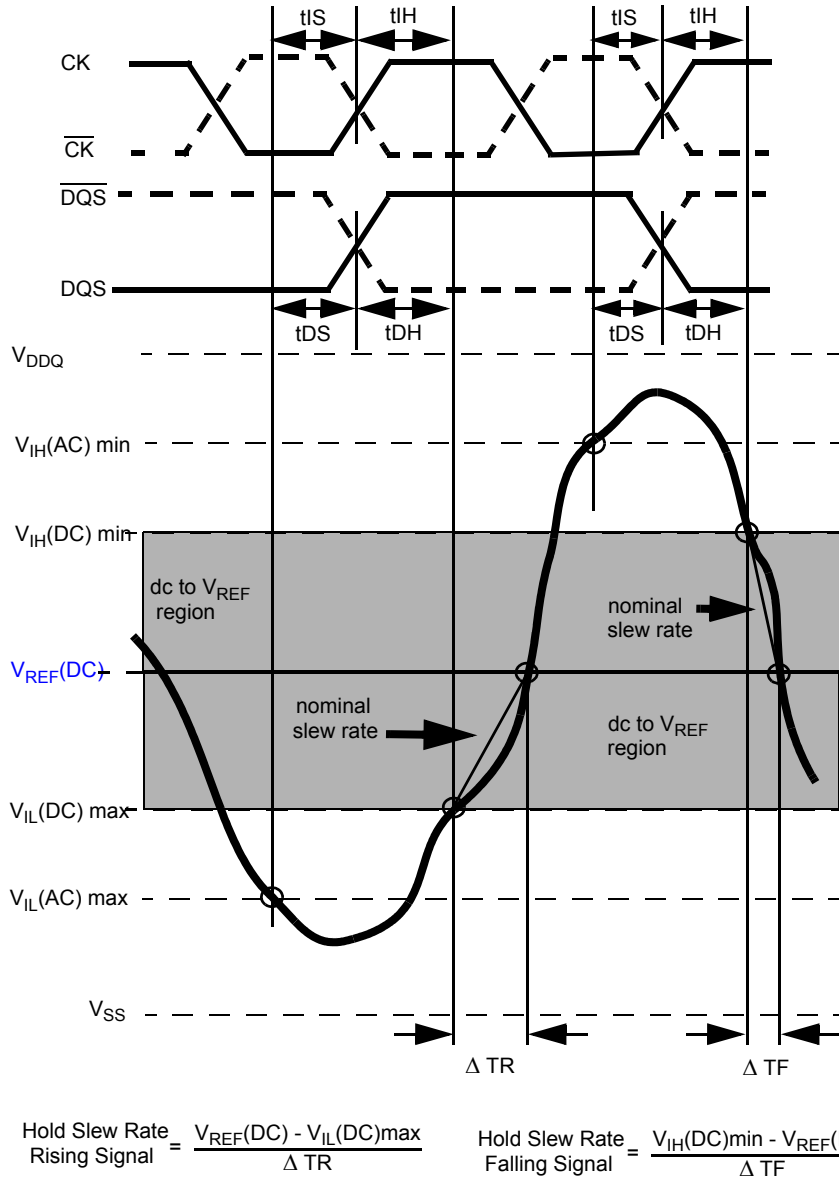

Figure 22. Illustration of nominal slew rate for hold time t_{DH} (for DQ with respect to strobe) and t_{IH} (for ADD/CMD with respect to clock).
Hold (tIH) nominal slew rate for a rising signal is defined as the slew rate between the last crossing of V_{IL}(DC)min and the first crossing of V_{REF}(DC). Hold (tIH) nominal slew rate for a falling signal is defined as the slew rate between the last crossing of V_{IH}(DC)min and the first crossing of V_{REF}(DC). If the actual signal is always later than the nominal slew rate line between shaded 'dc to V_{REF}(DC) region', use nominal slew rate for derating value (see Figure 22). If the actual signal is earlier than the nominal slew rate line anywhere between shaded 'dc to V_{REF}(DC) region', the slew rate of a tangent line to the actual signal from the dc level to V_{REF}(DC) level is used for derating value (see Figure 24).